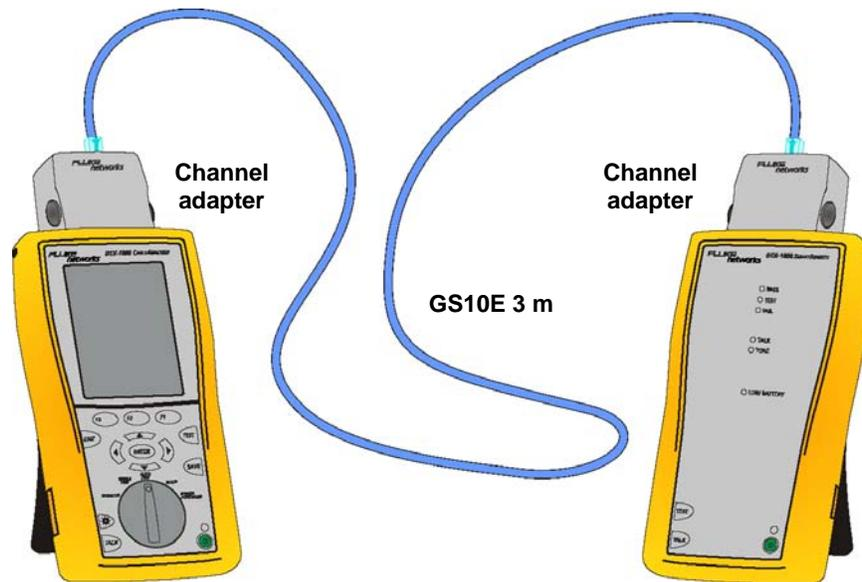

Figure 8. DTX 1800 CableAnalyzer Self Calibration Quick Check
1. Connect a 3 m GS10E cord to the Channel Adapters on both the Main and Remote(see Figure 8).